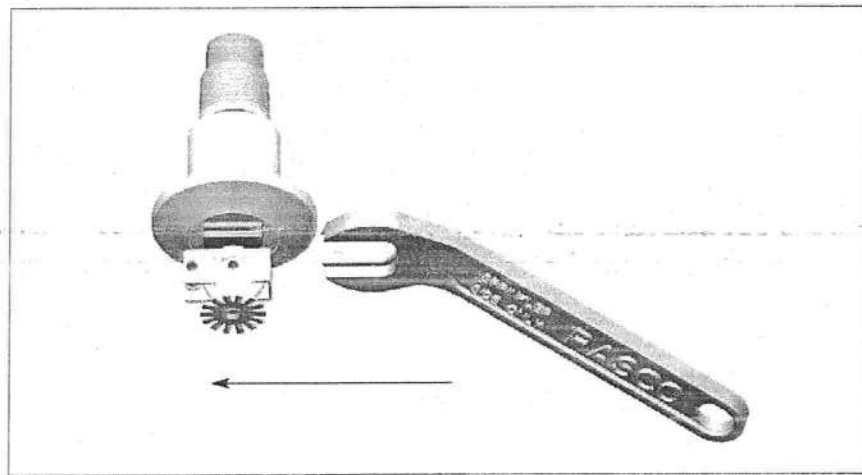

Fig. 4 - G3 Wrench
- Model G3 Wrench (Fig. 4) is used for installation of Pendent and Horizontal Sidewall sprinklers.